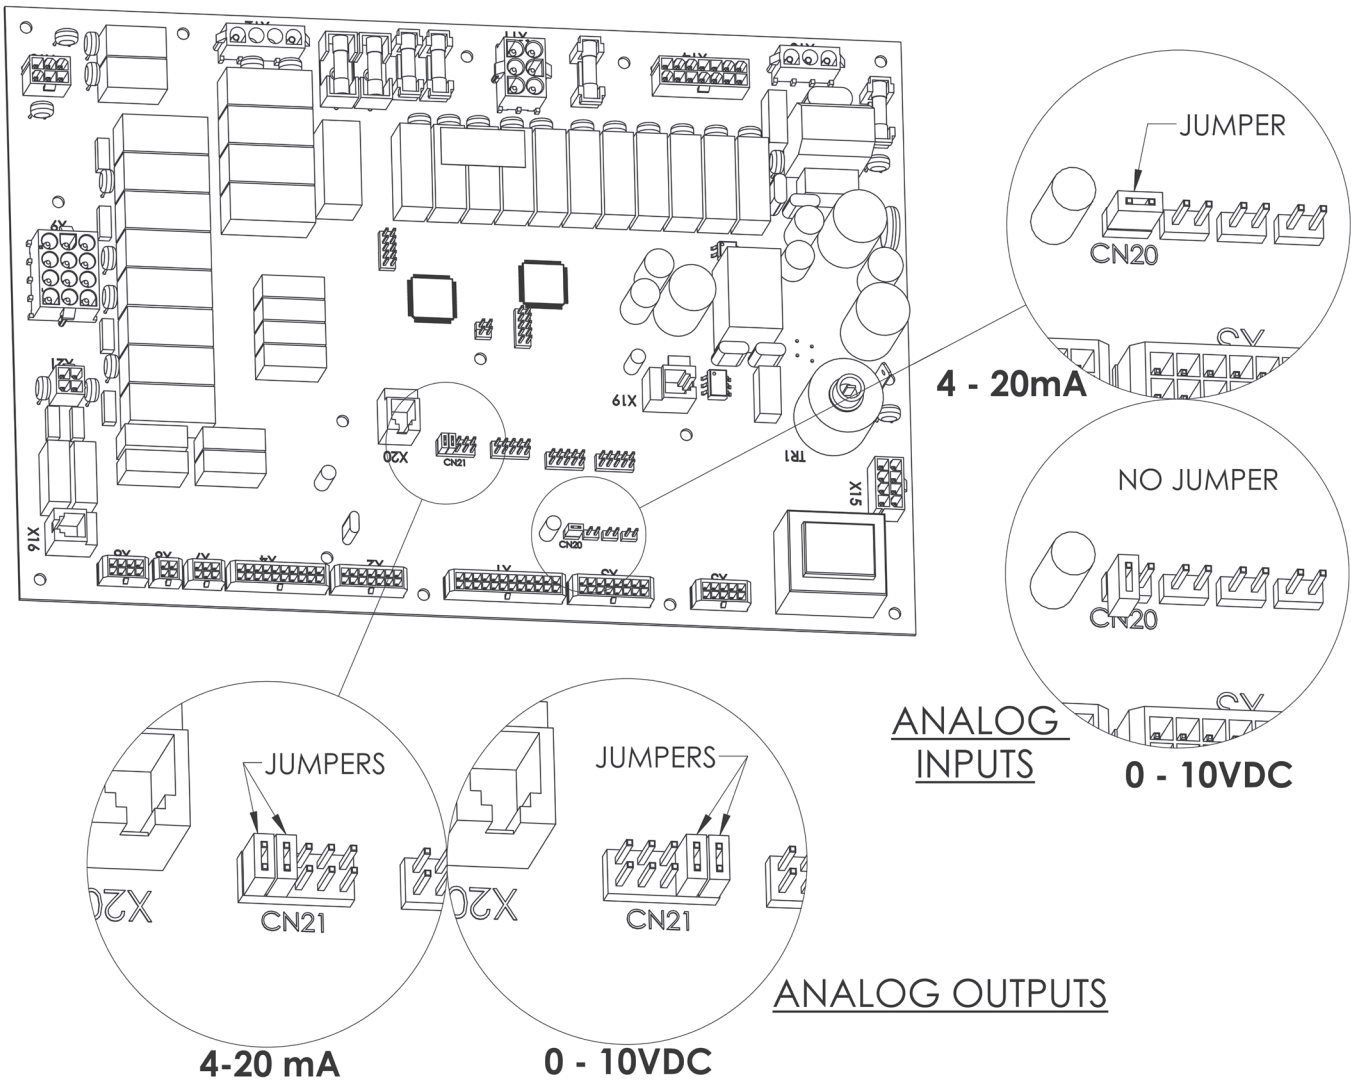

Figure 11. Analog Input and Output Jumper Placement
**Building Automation System (BAS):** The BAS input, if used, is connected to terminals 22 and 23 of the input terminal strip. When making the connection, adhere to the polarity designations shown on the label or wiring diagram. The input signal can be 0 – 10 VDC or 4 – 20 mA, and can be used to control the firing rate or set point, refer to 6.E.4 on page 36. The factory default setting is for a 0 – 10VDC signal. Configure for 4 – 20 mA by placing a jumper on CN20 on the control board, see Figure 11 on page 22.